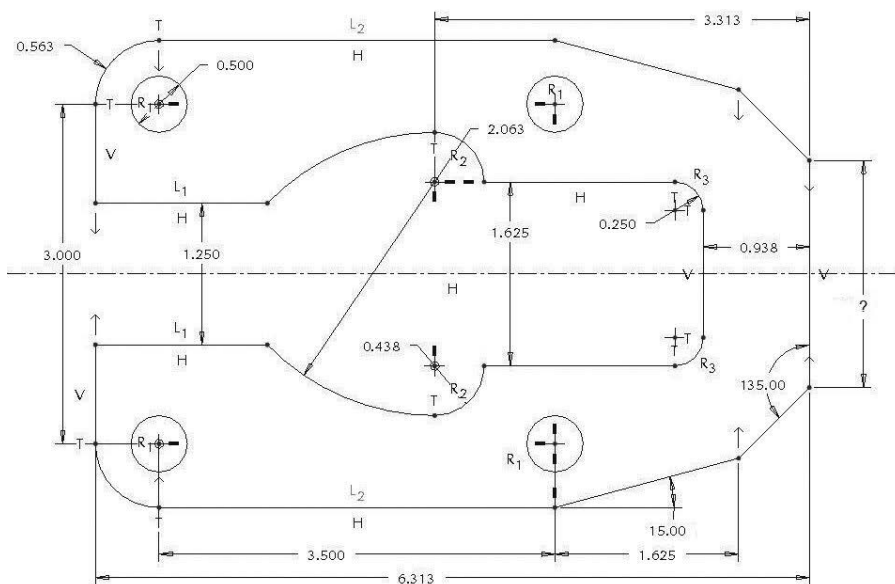

Figure 3-71 Problem 2
- 3.2** Draw latch plate61 (Figure 3-71). **Design Intent**—The plate must be symmetrical about a horizontal centerline (draw 1st). The four holes must be at the corners of a 3.000 inch by 3.500 inch imaginary box. Note that the beginning of the 15° line is directly below or above the center of the circles of radius R1. What is the length of the far right vertical line and the line L_1 ?